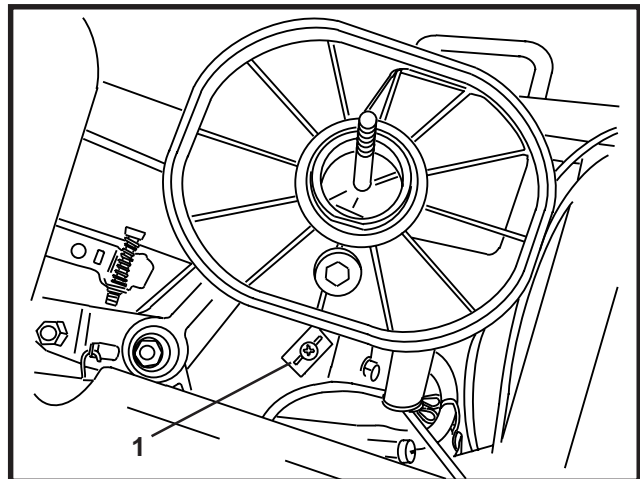

FIGURE 5
1. HAIR PIN (1)
2. CLEVIS PIN (1)
9. Remove air cleaner and double wire clamp from engine. Figure 5.